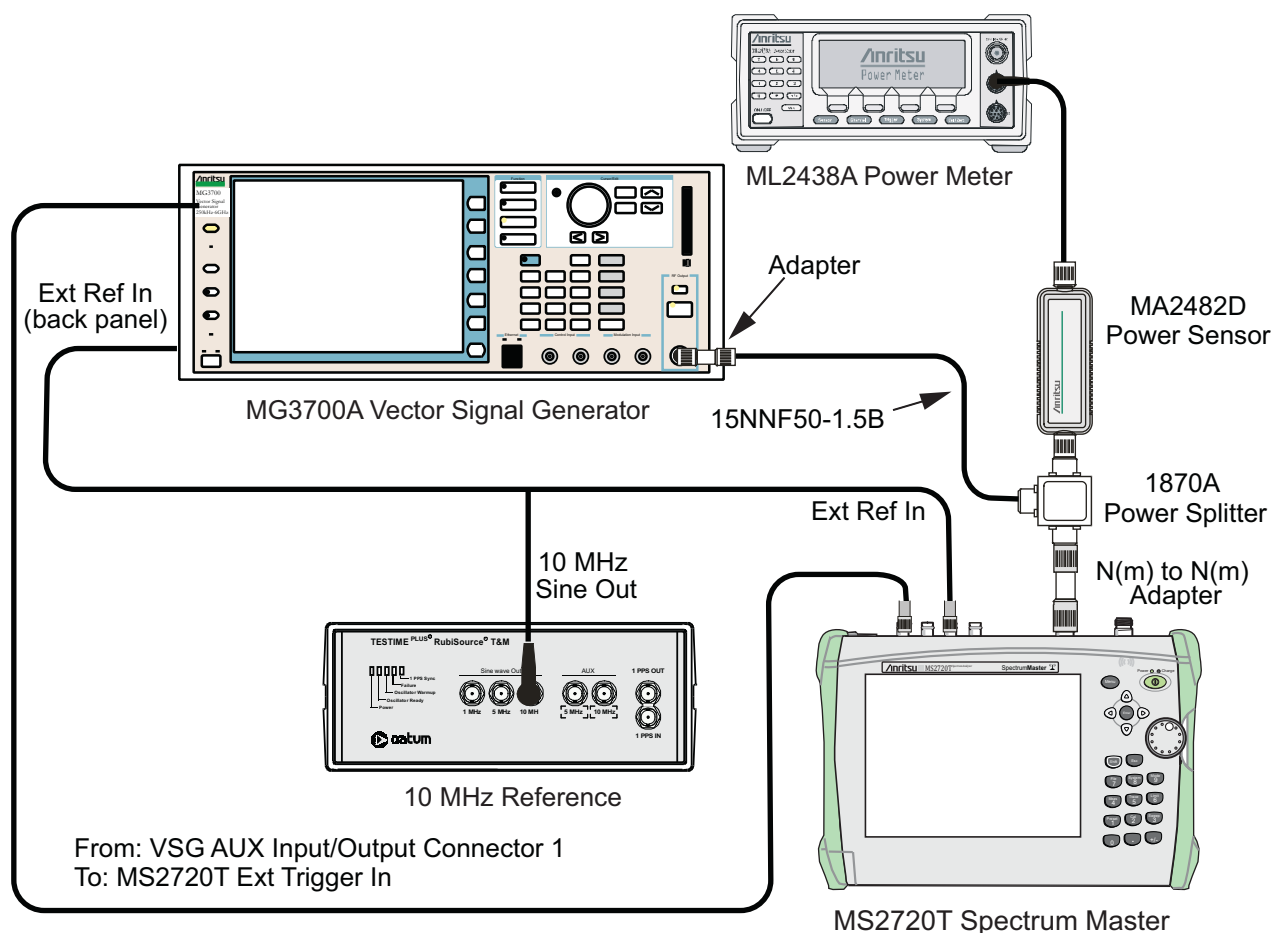

Figure 3-12. EVDO Signal Analyzer, Test Setup
2. Connect the equipment as shown in Figure 3-12.